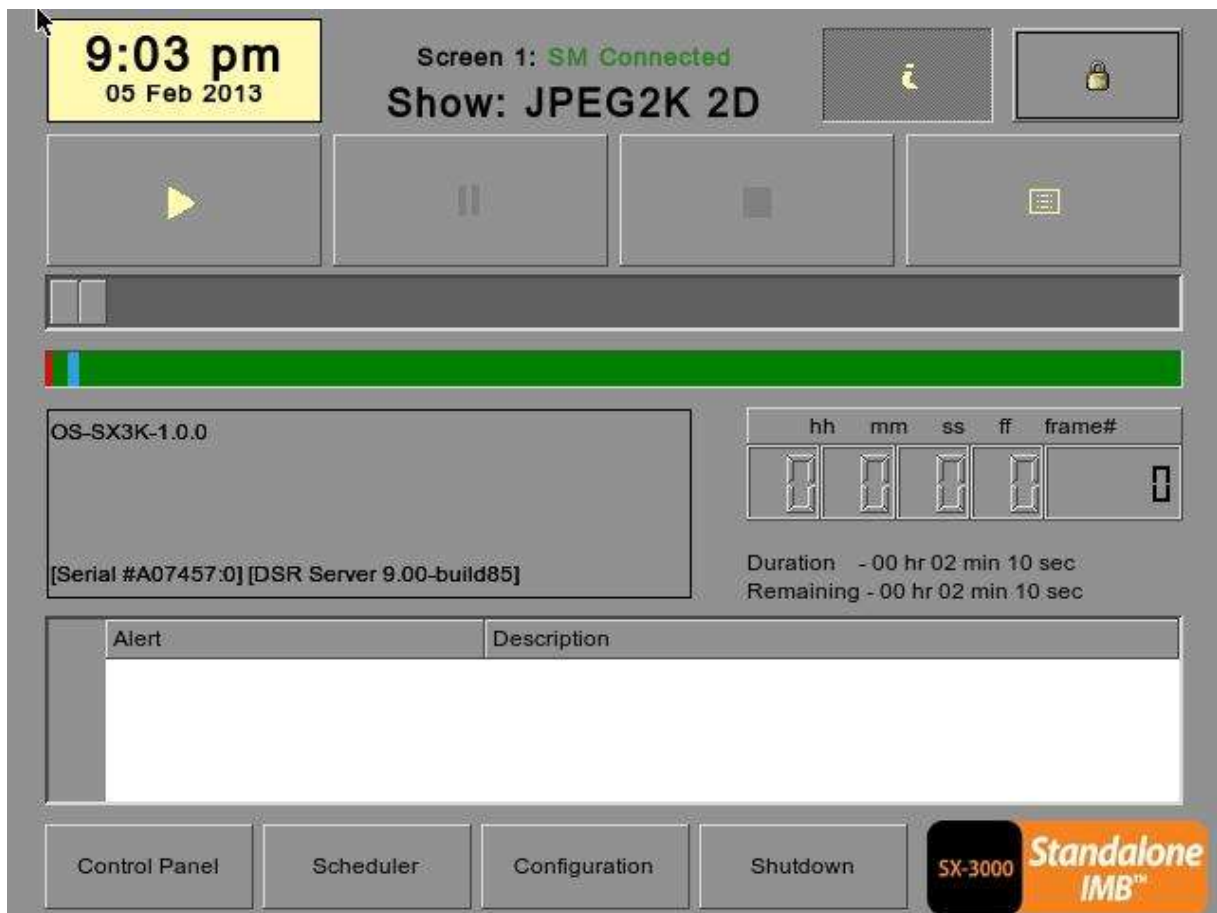

Figure 2 SMS interface.
- 1 Enter the user password to access the **SMS** interface as seen in Figure 2.